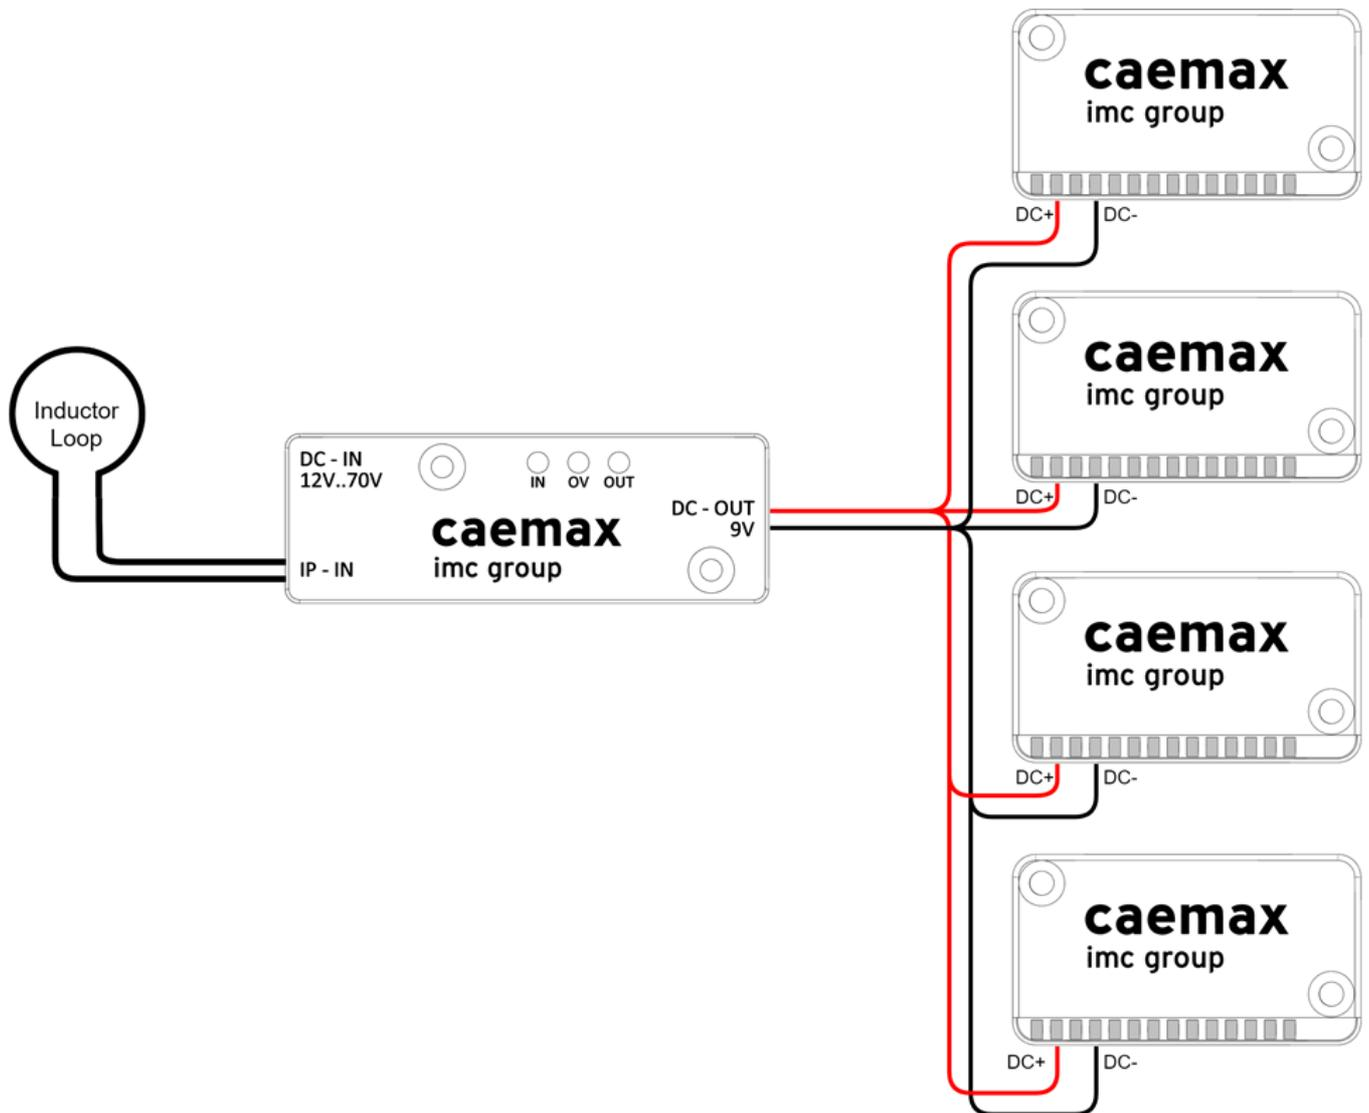

Fig. 21: Connection scheme of D^x-OVP modules for one inductive source and 4 D^x-SCT units
- Before commissioning, set the ring stator or fixed stator to the lowest power. To do this, use a screwdriver to turn the set screw 13 turns to the left until a click is heard. Then the ring or fixed stator is set to minimum power (see figure 21: Regulating the Stator power). There is also an arrow with a "+" and "-" sign on the stator.